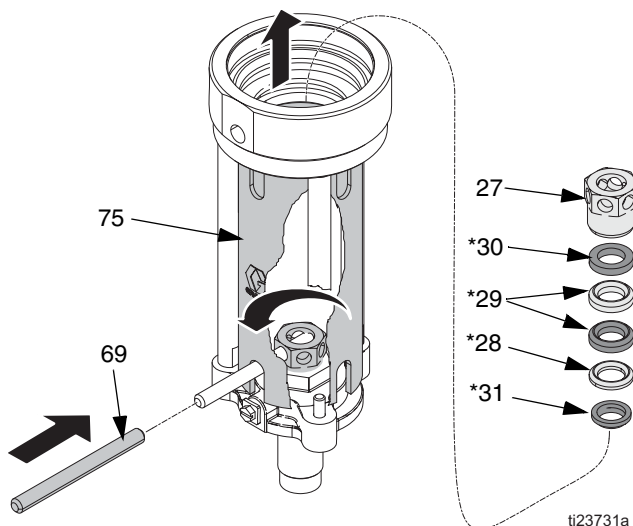

FIG. 26
12. Align slot of shield (75) and insert pin (69) to remove hex nut (27) from mounting flange (26). Remove female gland (30*), 2 PTFE packings (29*), male gland (28*) and wiper (31*). Inspect all parts for damage. See FIG. 26.